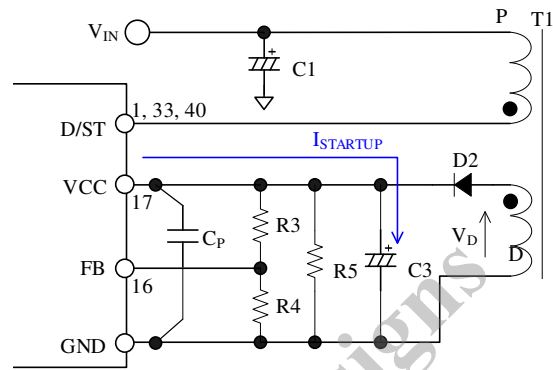

Figure 9-2. VCC Pin Peripheral Circuit
The IC incorporates the startup circuit. The circuit is connected to the D/ST pin. When the power supply voltage,  $V_{IN}$ , is applied, the internal startup circuit is activated. Then, the constant current,  $I_{STARTUP} = 2.5 \text{ mA}$ , charges electrolytic capacitor, C3, connected to the VCC pin. When the VCC pin voltage increases to  $V_{CC(ON)} = 15.3 \text{ V}$ , the control circuit starts operation. After the IC starts switching operation, the VCC pin voltage is the rectified auxiliary winding voltage,  $V_D$ , as shown in Figure 9-2.
When the voltage is detected by the auxiliary winding as shown in Figure 9-2, adjust the winding turns of D so that the VCC pin voltage becomes in the range of Equation (2).